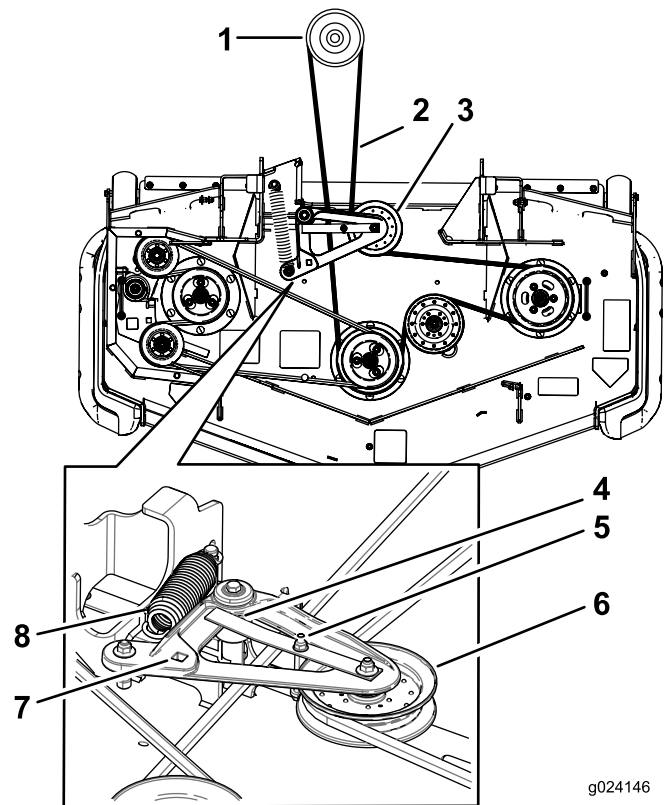

Figure 95
5. Lift up the floor pan and insert a ratchet into the square hole in the deck idler (Figure 95).
6. Rotate the mower deck idler clockwise, lift up on the belt-guide tab and remove the mower deck belt from the clutch (Figure 95).